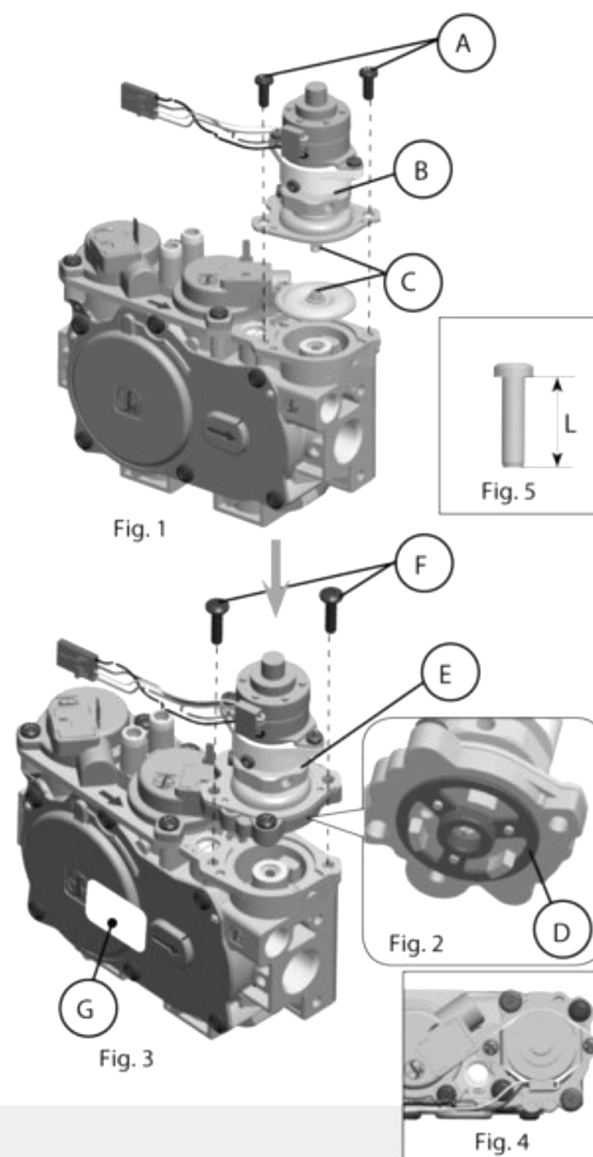

Figure 4-15 Pressure Regulator Conversion
2. See Figure 4-15- 2: Ensure the rubber gasket (D) is properly positioned. The rubber gasket is pre-fitted as part of assembly (E).
3. See Figure 4-15- 3 and Figure 4-15-4: Install the new stepper motor pressure regulator assembly. Use the provided screws (F), M4 x 0.7 threaded; length of thread $L = (16\text{mm} + 0 - 0.5\text{mm})$, steel material, resistance class 8.8 (Figure 4-15-5).
6. Install the enclosed identification label (G) to the valve body where it can be easily seen.